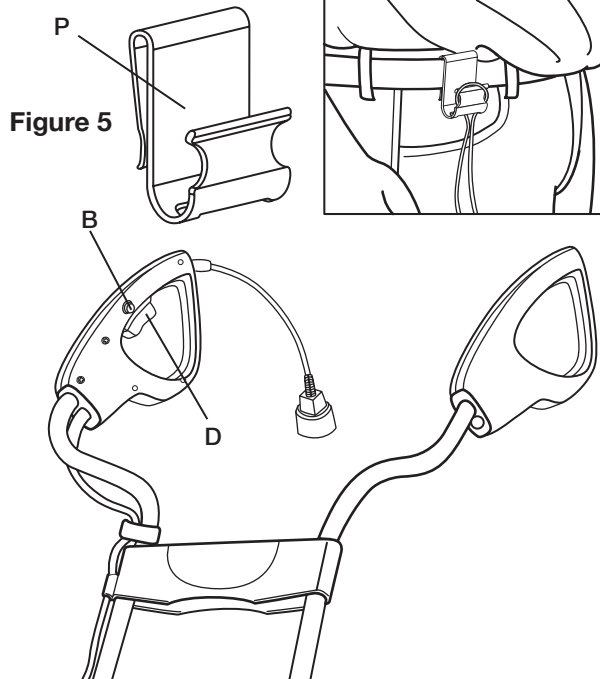

Figure 6
1. Turn ON the machine by pressing the Safety Button (B) (See Fig. 6) and the squeezing Power Switch (D) (See Fig. 6). Release the Safety Button (B) (See Fig. 6).
2. After completing the work release Power Switch (D) (See Fig. 6) to turn the machine OFF.